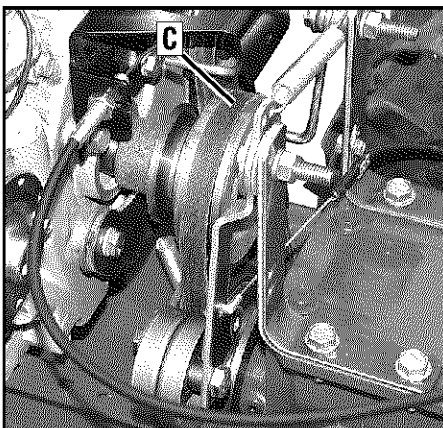

Figure 5-8: Forward clutch belt. (C, Left-side view, no belt cover.)
Tension on a new forward clutch belt (C, Figure 5-8) should be checked after the first two (2) hours of operation and after every ten (10) hours of operation.